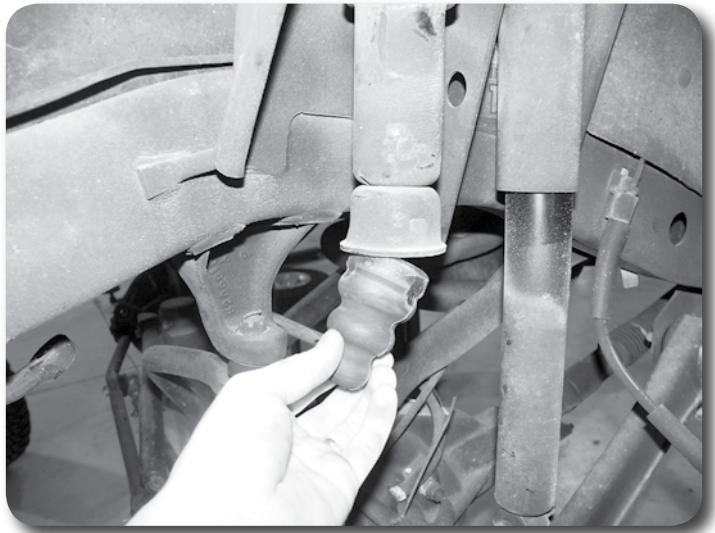

Figure 5
14. Remove the factory bump stop from the upper coil mount (Figure 5). Large pliers can be used to pull it out. Remove the factory bump stop retainer cup by removing the bolt from the center.